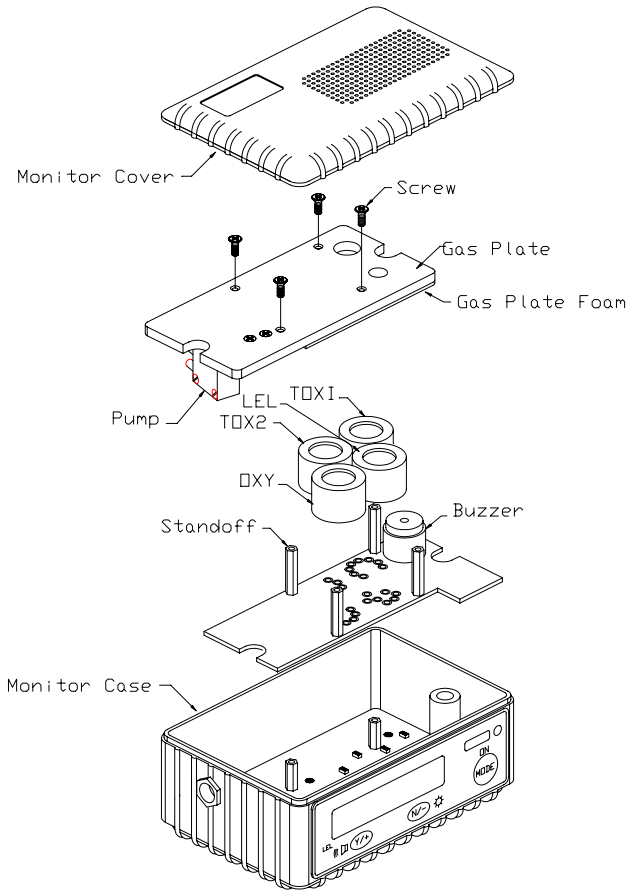

Figure 7-2 Sensor Assembly of Q-RAE
3. Refer to Figure 7-2, carefully unscrew four No. 2 screws that hold down the gas piping plate to the analog PCB and sensors. Remove the gas piping plate.
4. Refer to Figure 7-2, identify the location of a specific sensor and remove the sensor by gently pulling upward.
2. Refer to Figure 7-2, open the monitor cover, **disconnect the battery pack**, carefully unscrew four No. 2 screws that hold down the gas piping plate to the analog PCB and sensors. Remove the gas piping plate.
5. Refer to Figure 7-2, replace the gas piping plate and tighten the four screws to hold down the sensors. Reconnect the battery pack. Replace the monitor cover.